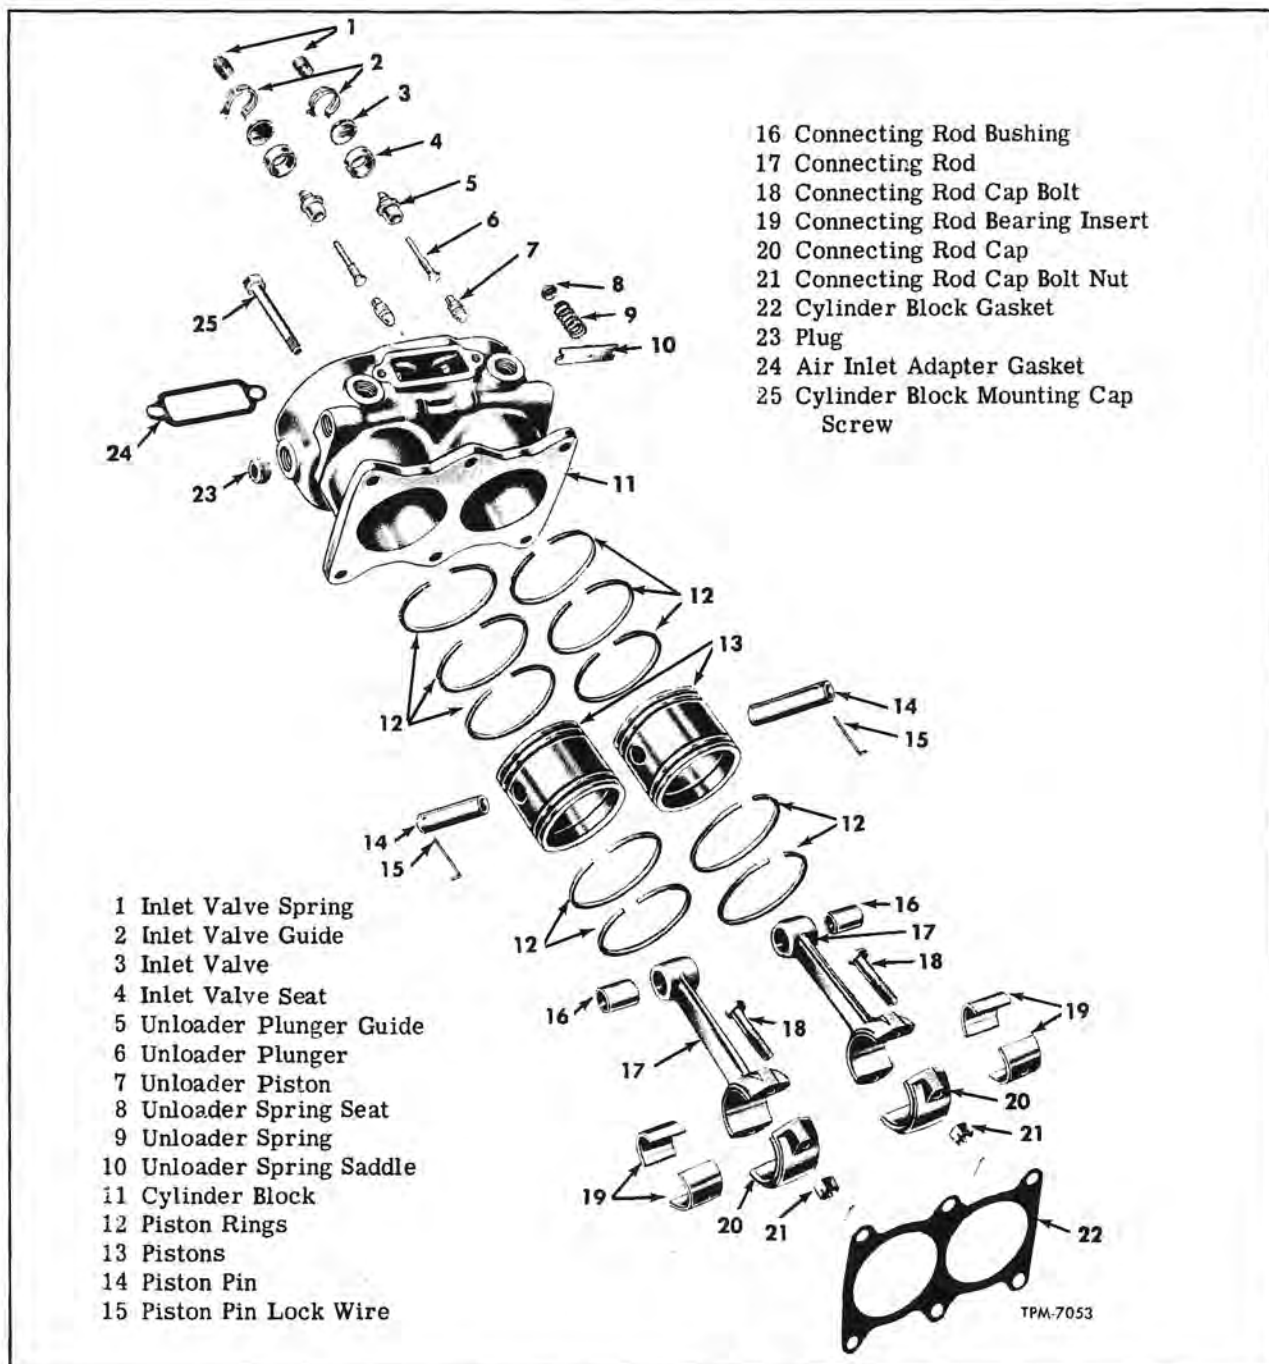

Figure 13—Cylinder Block Components
Key numbers in text refer to figure 13.
2. Place inlet valves (3, fig. 13), inlet valve guides (2, fig. 13), and inlet valve springs (1, fig. 13) in bores in top of cylinder block.